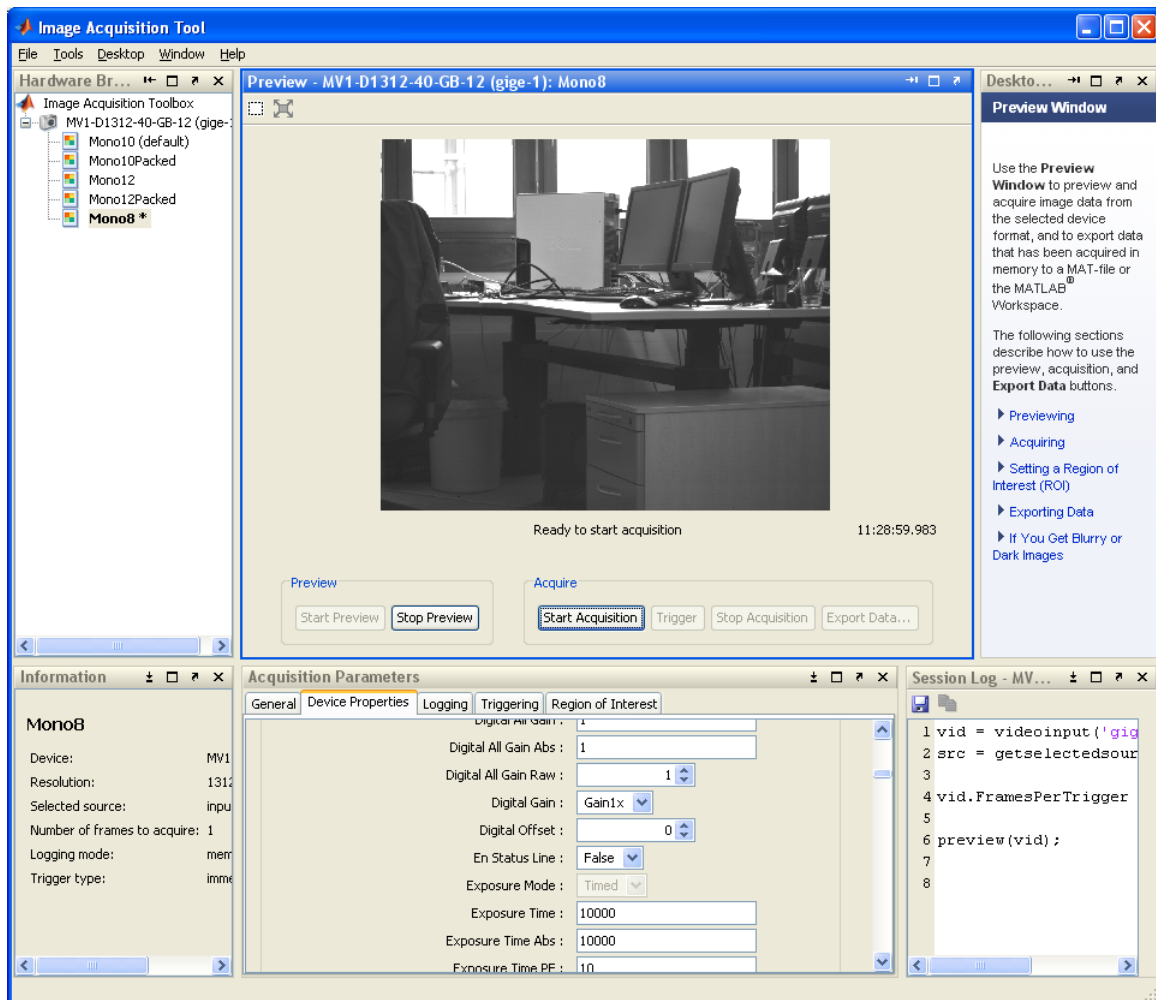

Figure 4.3: Matlab Image Acquisition Toolbox
1. Start the Image Acquisition tool by clicking inside MATLAB on Start -> Toolboxes -> Image Acquisition -> Image Acquisition Tool (imaqtool). Your Photonfocus camera should now appear in the left pane (see Fig. 4.3). Click on Mono8 in the left pane.
2. To modify camera properties, click on the Device Properties tab in the Acquisition Parameters pane (see Fig. 4.3). The properties are listed in alphabetical order. E.g. to modify the exposure time, scroll down to ExposureTime, modify the numerical value and press Enter. Time values are normally specified in μs .
3. To preview images click on the Start Preview button (see Fig. 4.3). A live camera preview should appear in the Preview window.